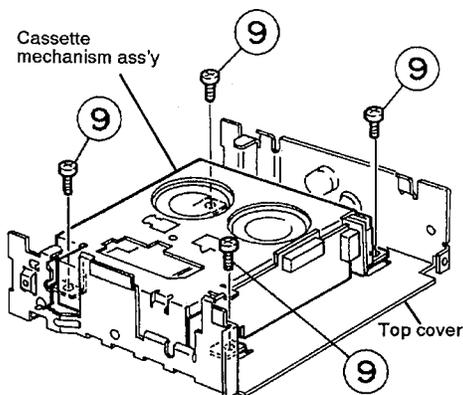

Fig. 4-5
- Remove one screw ⑤ to remove the 13-pin jack.
- Remove one screw ⑥ to remove the line-out jack.
- Remove one screw ⑦ to remove the antenna socket.
- Remove two screws ⑧ to remove the changer jack.
- ◆ **Mechanism assembly** (See Fig. 4-5)